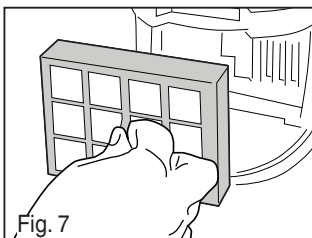

Fig. 7
- 1) Remove dust cup. Remove HEPA cover and filter (Fig 7).